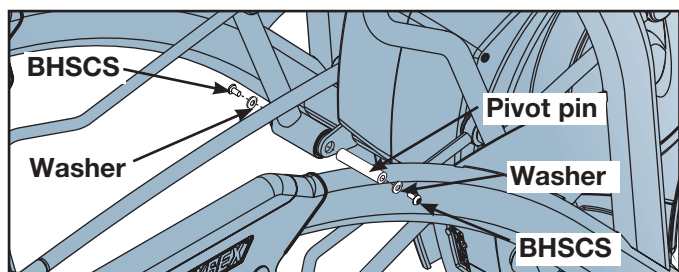

Figure 4
- D. Using two 7/32" Allen wrenches, remove the two BHSCS, washers and pivot pin securing the arm handle onto the frame. **NOTE:** You may need a rubber mallet and punch to remove the pivot pin. See Figure 4